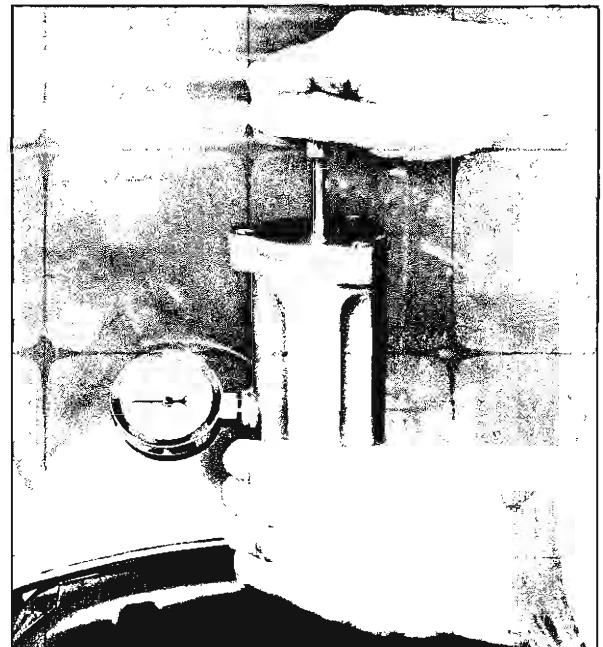

Fig. 23—Cooling System Pressure Test (Typical)
2. Apply a test pressure of 3 pounds higher than the radiator cap (fig. 23). i.e. 12 pounds for a 9 pound cap.